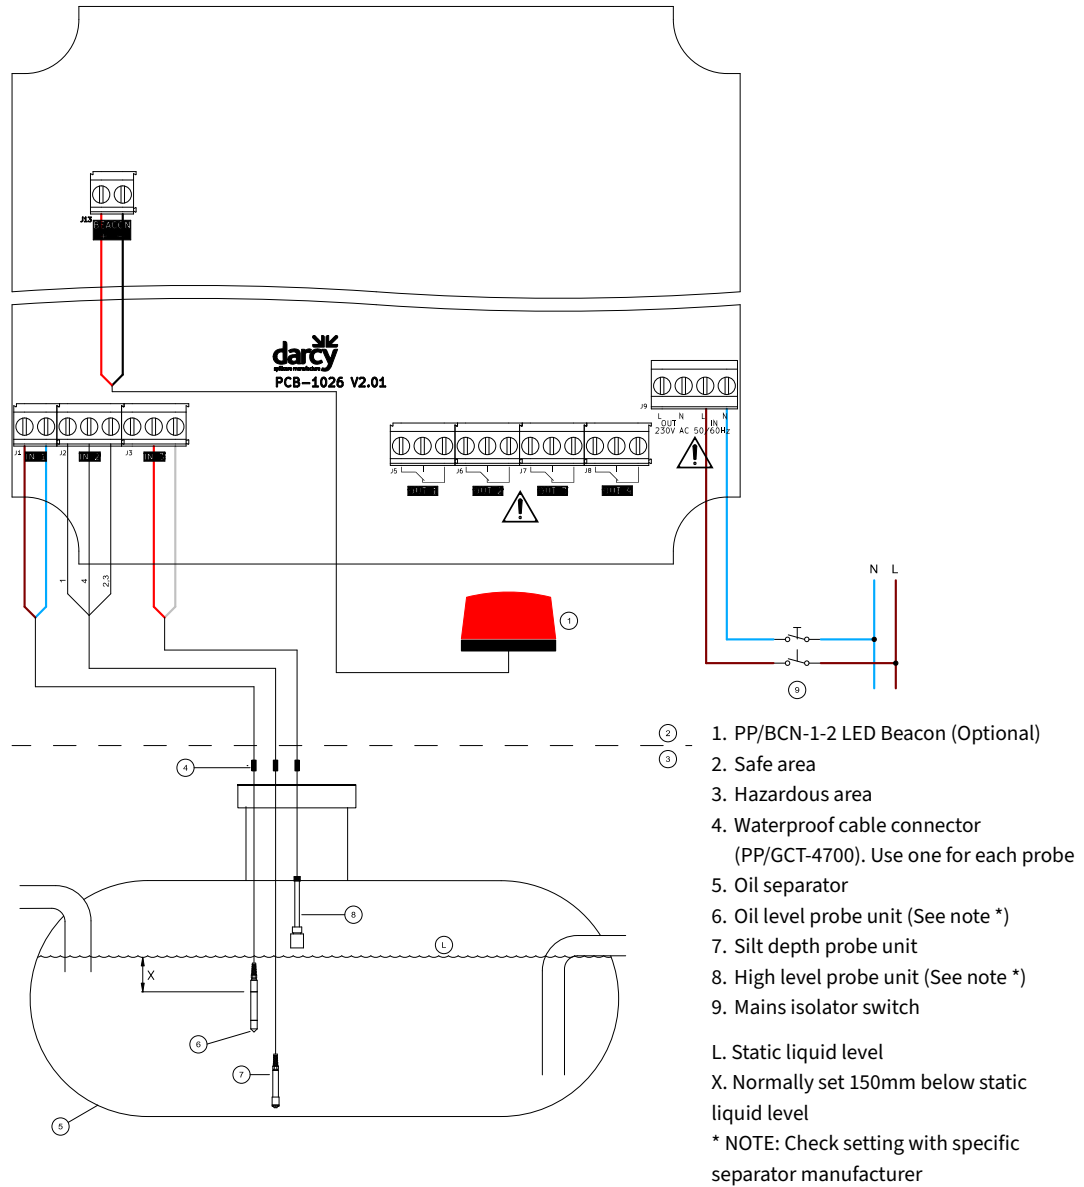

Figure 2: Typical installation for an oil separator alarm: Wiring probes, beacon and mains supply
- d. Wire the float, conductivity, silt or capacitive probe cables into J1 ... J3 terminals on the PCBA inside the alarm according to Figure 2 and the wiring details in the Probe Terminals section. For a float switch probe, hang the probe in the tank at the position which an alarm should occur.